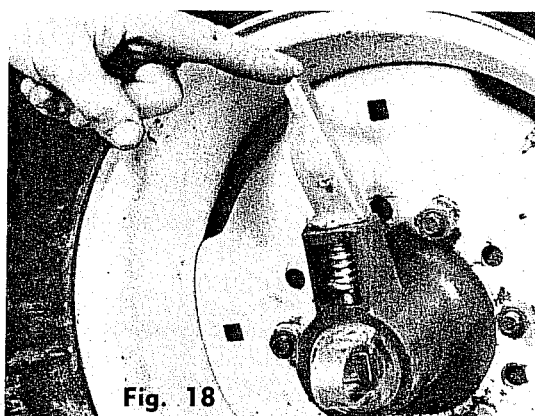
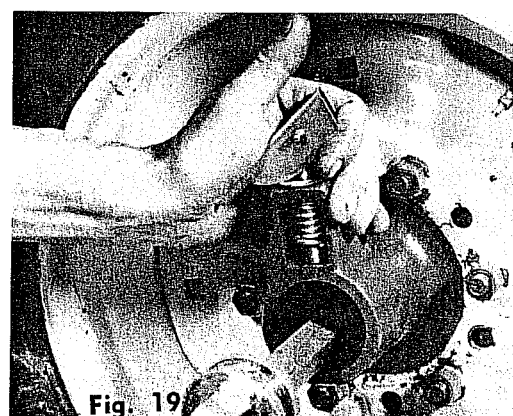

Fig. 18
Fig. 19
17) or OUT OF GEAR (Figure 18). Third position (Figure 19) is used for rotor removal.